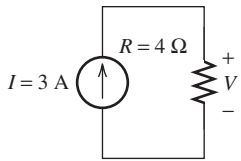

FIGURE P2.38 Circuit for Problem 2.38.
2.38 (B) Find V in the circuit of Figure P2.38.